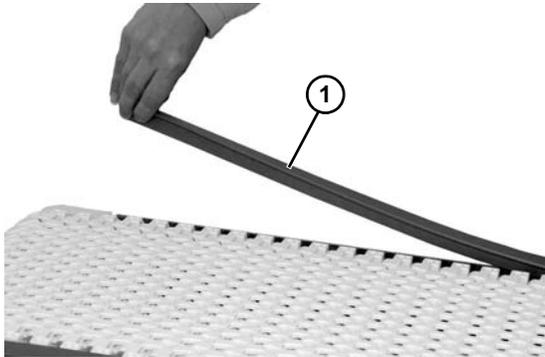

Figure 31
- Install the top bar caps (**Figure 31, item 1**) on the conveyor frame with wide lip facing up to cover the belt tabs.